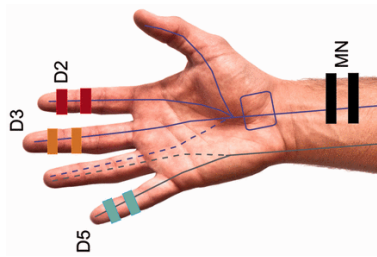

Figure 12: Illustration of the median nerve stimulus location.
- Place stimulus electrodes over the median nerve on the wrist (Figure 12). Secure with Velcro straps. Ensure low impedance between the stimulus electrode and skin.